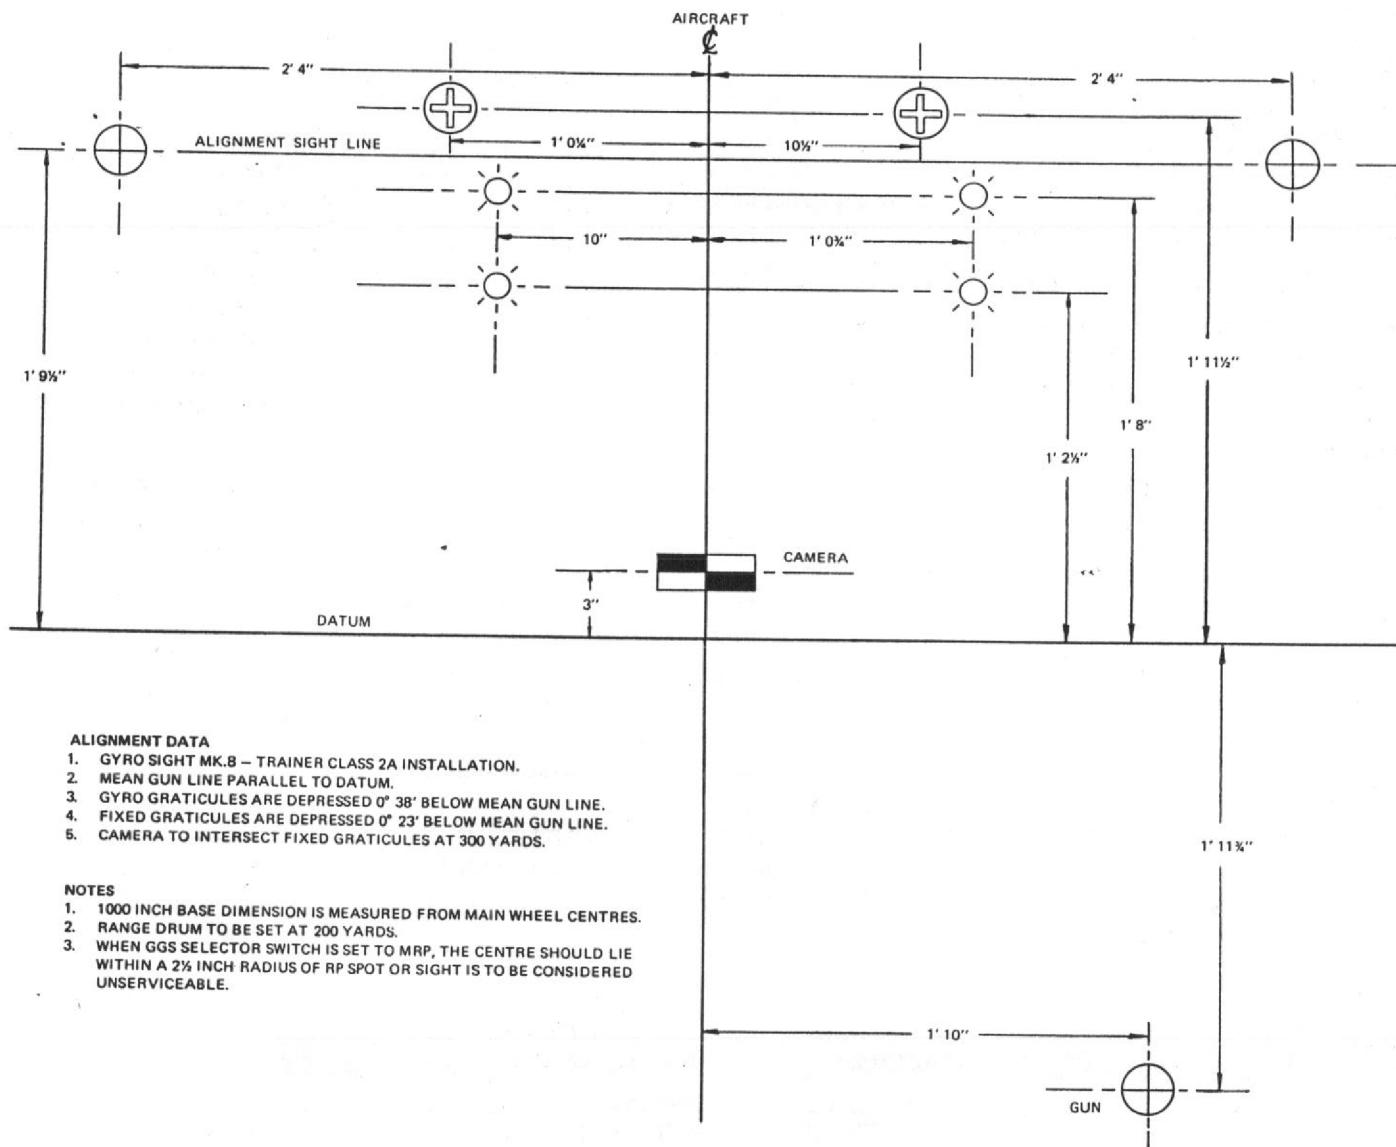

Fig. 1 Gun sight alignment diagram
- (1) Set up the alignment stand or diagram, as shown in fig.1.
- (2) Position the aircraft with the centres of the main wheels on a base line which is parallel to the diagram and at a distance of 1000 inches from it. Chock the main wheels.
- (3) Jack the aircraft in accordance with the jacking and trestling instructions (Sect.2, Chap.4).
- (4) Position the aircraft alignment bar in the canopy casing, ensuring that the forward ends are in contact with the windscreens arch.
- (5) Insert a gun aligning instrument into the housing on each side of the alignment bar.
- (2) Select GYRO and RP and set the range control drum to 200 yards.
- (3) Slacken the sight securing nut sufficiently to allow the sight head to be rotated under slight pressure.
- (4) Adjust the sight, laterally, by rotating the head about its spigot until the gyro image is aligned laterally, with the appropriate sighting disc. Tighten the securing nut and recheck alignment.
- (5) Using a 4 BA spanner, unlock the two lock nuts on the sight screen adjusting screws, and adjust the screen to bring the gyro image, vertically, onto its sighting disc. Tighten the adjusting screw lock nuts and recheck alignment.
- (6) Set the selector to FIXED.
- (7) Bring the fixed cross image onto its sighting disc by turning the two flexible adjusters at the back of the sight body.
- (8) Set the selector to MRP and check in accordance with Note 3 of fig.1.